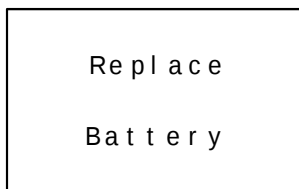

Figure 5-4 Replace Battery Screen
- The TXP-WTA Sensor Transmitter will alternate, every six seconds, between the Replace Battery Screen (Figure 5-4) and the screen which was previously being monitored.
NOTE: If a sensor module is installed that does not match gas type of the previous sensor, the operator must manually approve the new sensor for the TXP-WTA Sensor Transmitter to accept the new gas type (Figure 5-4).